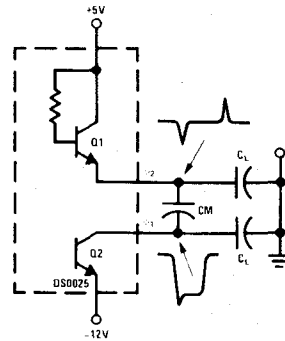

FIGURE 5. Clock Line Cross Talk
**Cross Talk:** Voltage spikes from  $\phi_1$  may be transmitted to  $\phi_2$  (and vice versa) during the transition of  $\phi_1$  to MOS logic "1." The spike is due to mutual capacitance between clock lines and is, in general, aggravated by long clock lines when numerous registers are being driven. *Figure 5* illustrates the problem.